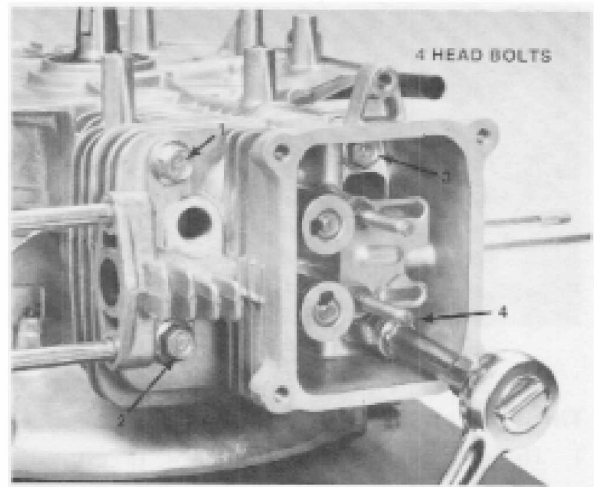

Figure 4-12
3. Remove the four head bolts. Use a 12 mm socket with a short extension. Two of the head bolts are under the valve cover. See Fig. 4-12.